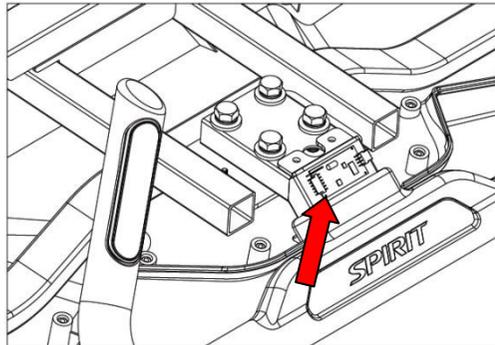

Figure 4.9.2
- 3) As shown in Figure 4.9.2, remove the 12P control cable connector and remove the core module wire